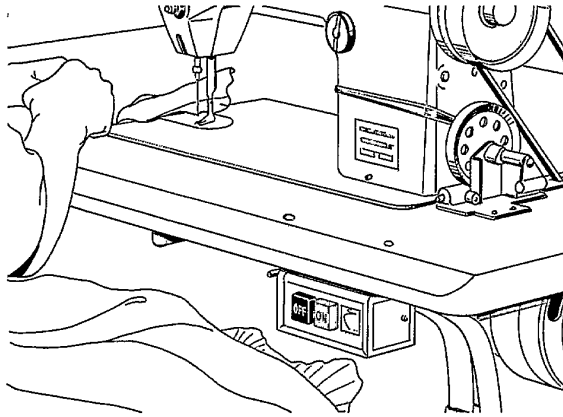

Figure 29: ON (red) – OFF (black) switches should be at hand and easily recognizable
- using different sizes, shapes or colours for different kinds of switches or signals (figures 29, 30 and 31)